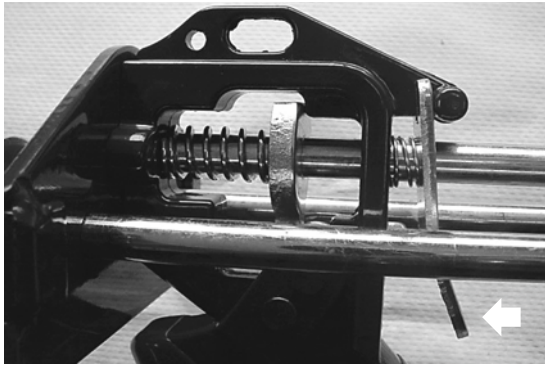

Figure 3: Thumb release lever (see arrow)
1. Fully depress the thumb release lever and then retract the piston carriage assembly. See Figure 3.